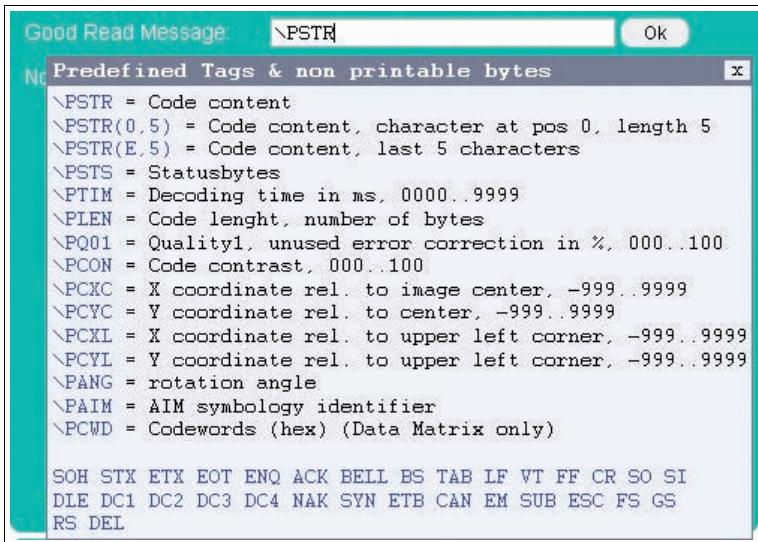

Figure 7.11 Tooltip good read message - bad read message
- **Good read output:** Specifies the character string that will be output if decoding was successful. This field uses Tooltip functionality. A table appears if the mouse pointer remains over one of the two input fields for more than 1 second → see Figure 7.11 on page 32. The table contains placeholders that can be inserted manually or by clicking the mouse. At present, the following information can be output as part of the output string: Code content, code length, status, decoding time, symbol coordinates, etc. A description of the placeholders can be found in the appendix see chapter 9.3.
- **Bad read output:** Specifies the character string that will be output if decoding was unsuccessful. A timeout error will also result in the output of this string. A table appears if the mouse pointer remains over one of the two input fields for more than 1 second → see Figure 7.11 on page 32. The table contains placeholders that can be inserted manually or by clicking the mouse. At present, the following information can be output as part of the output string: Status, decoding time. A description of the placeholders can be found in the appendix see chapter 9.3.